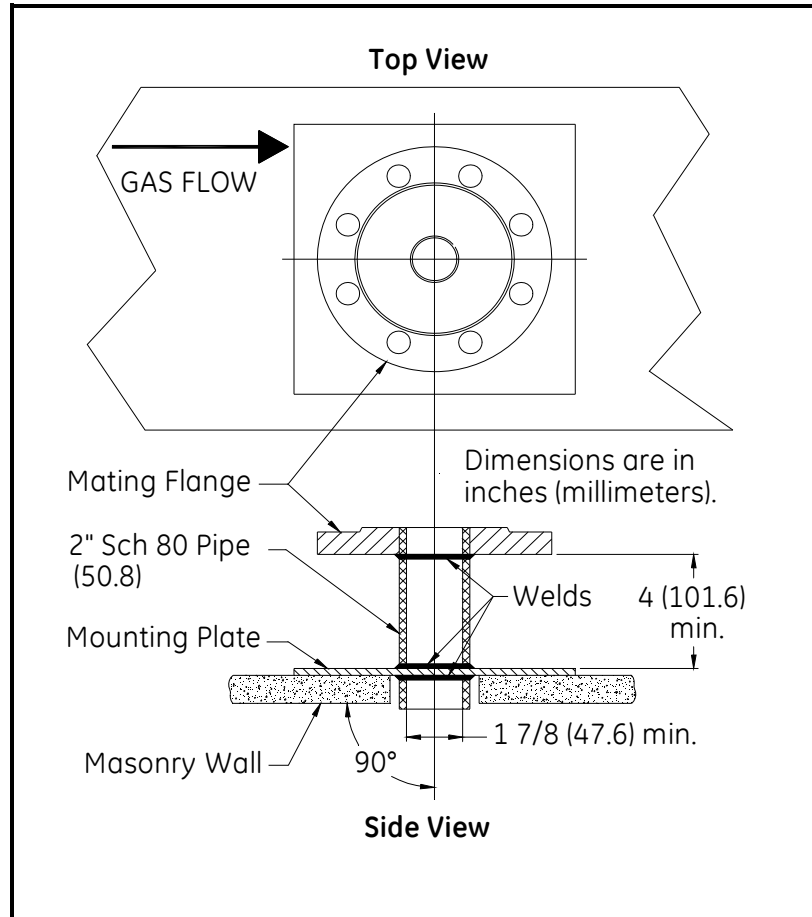
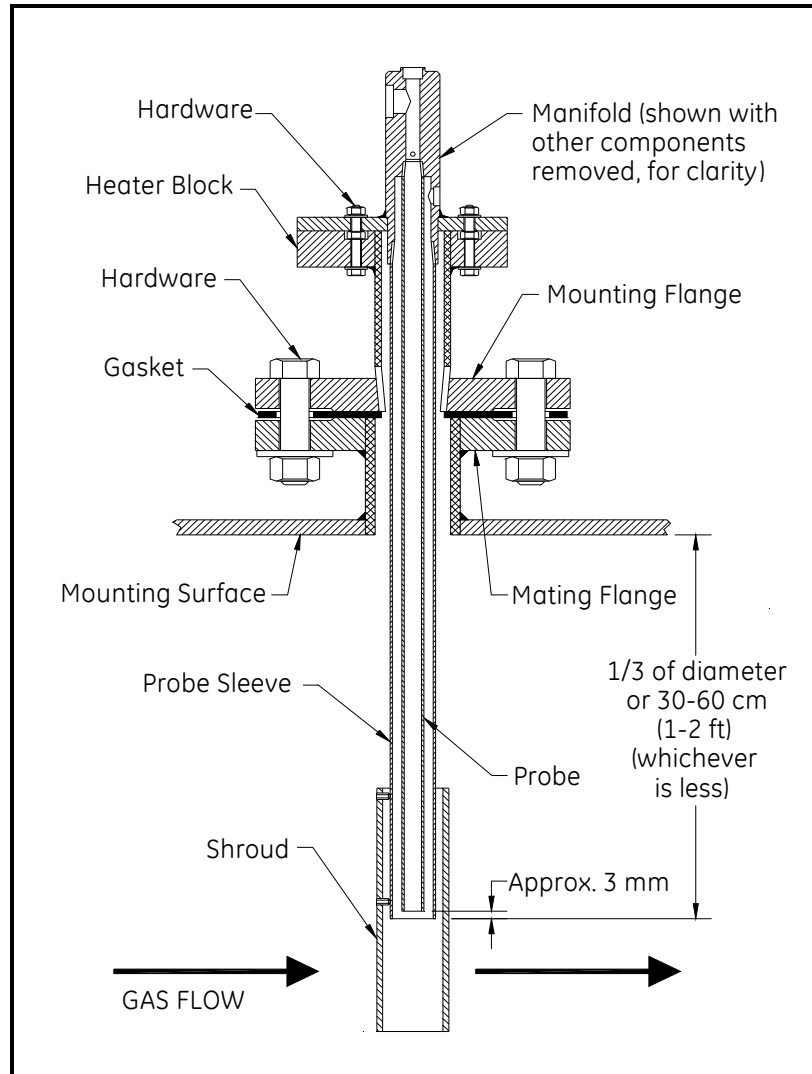

Figure 14: Installed Pipe and Mating Flange
Figure 15: Sample Probe Assembly
Preparation of the installation site should include the following steps (see Figure 14 on page 18):
Although the rotation of the Main Analyzer Unit with respect to the gas flow direction is not critical, if the unit is ordered with an installed mounting flange, the mating flange orientation shown in Figure 14 will ensure that the analyzer is square to the duct. In addition, make certain that the mating flange is mounted so that the analyzer is vertical (and not tilted) when it is bolted in place.
Confirm that the probe and sleeve are the correct lengths. Then, refer to Figure 15 on page 20 and complete the following steps:
1. As shown in Figure 15 on page 20, attach a flange or fixing-plate to the bottom of the Main Analyzer Unit. Orient the flange mounting holes to coincide with the holes in the existing mating flange (see Figure 14 on page 18).
3. Secure the analyzer in place by fitting bolts into the matching flange holes and fastening the bolts with washers and nuts. Upon insertion, the two flanges should fit together with the gasket clamped between them (see Figure 15 on page 20).